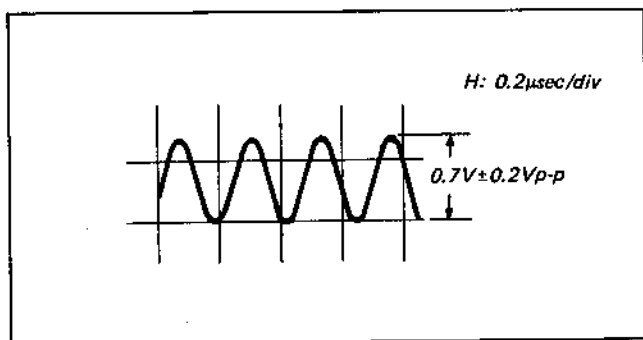

Fig. 4-4-25. Output level check
- (1) Do not supply the VTR with any signal and set up the E-E mode.
- (2) Connect the frequency counter to TP24 (emitter of Q57).
- (3) Adjust T8 so that the oscillating frequency is $4.433619\text{ MHz} \pm 5\text{ Hz}$.
- (4) Check that the output level is $0.7\text{ V} \pm 0.2\text{ Vp-p}$. (See Fig. 4-4-25.)